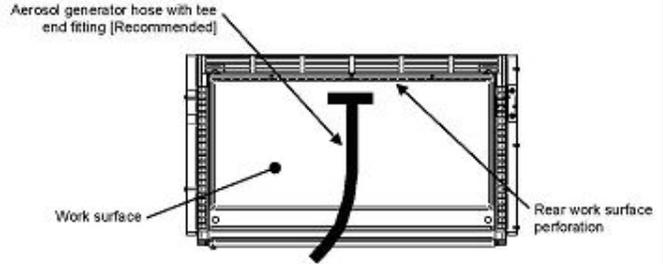

Figure 1: Section view of cabinet at work surface elevation
1. Place a tee fitting on the end of the aerosol generator hose and position the tee in the middle of the rear work surface perforation. [See Figure 1]
2. Place a tee fitting on the end of the aerosol generator hose and position the tee in the middle of the rear work surface perforation. [See Figure 1]